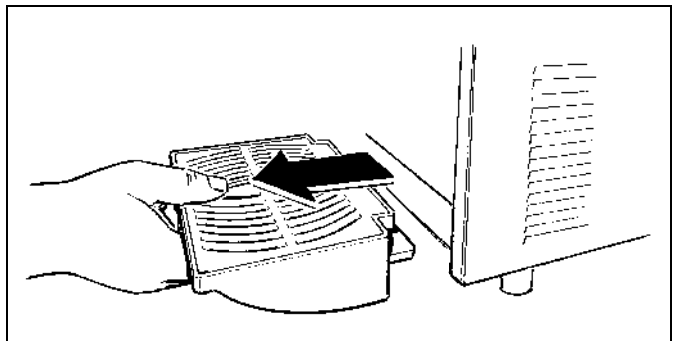

Fig. 25
- Remove the drip tray and pulling it forward (see figure 25). Wash each part thoroughly, then reassemble the parts by inversely following the procedures described above.